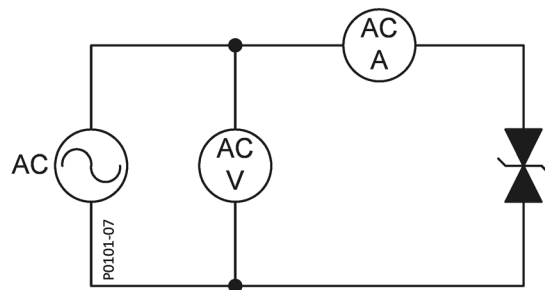

Figure 6-4. Test Connections, AC Single-Phase Suppressor
- AC single-phase suppressor: Figure 6-4